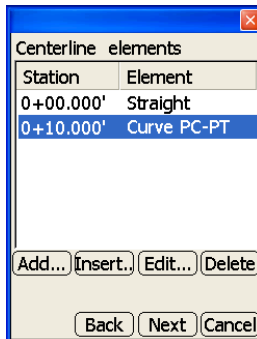

Figure 3-61. Centerline Elements Dialog Box
- Add – on the *centerline elements* dialog box, press **Add** to enter an element and its respective information, then press **Ok** to save the information (Figure 3-61 on page 3-40).